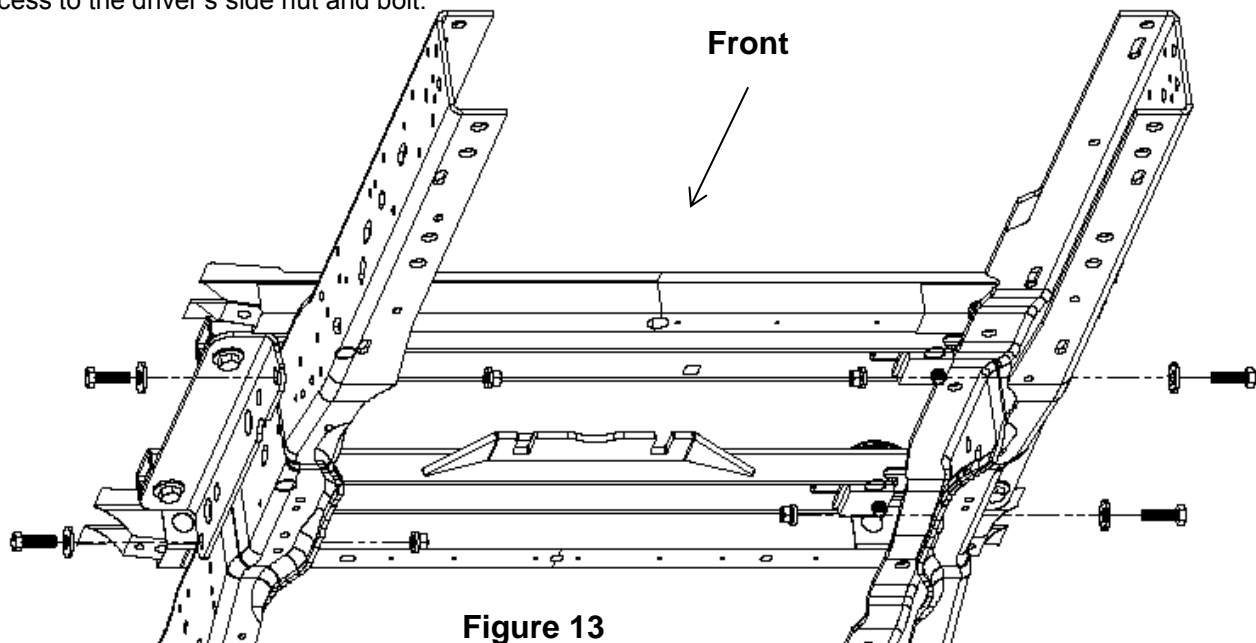

Figure 13
18. Loosely attach frame bracket to existing holes in chassis frame using M14 1.5 x 45 bolts (#10), conical washer (#11) (Figure 1), and flange nut (#12) (Figure 1). Tighten to hand tight (Figure 13). Lifting truck bed gives easier access to the driver's side nut and bolt.